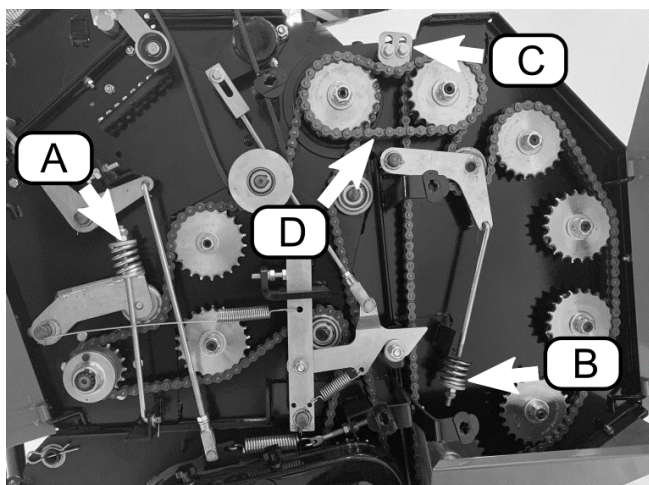

Figure 38 Left side of baler
Adjust main drive chain tension by shortening or lengthening tensioner springs (Figure 38, A,B) and by changing position of tension plate (C). Optimal spring length specifications are **1 7/16 inches (36mm) for spring A** and **1 1/2 inches (38mm) for spring B**. If the tension plate (C) is at the proper setting, the joint chain (D) should deflect **approximately 1/8 inch (3mm)** when pressed upward from below.